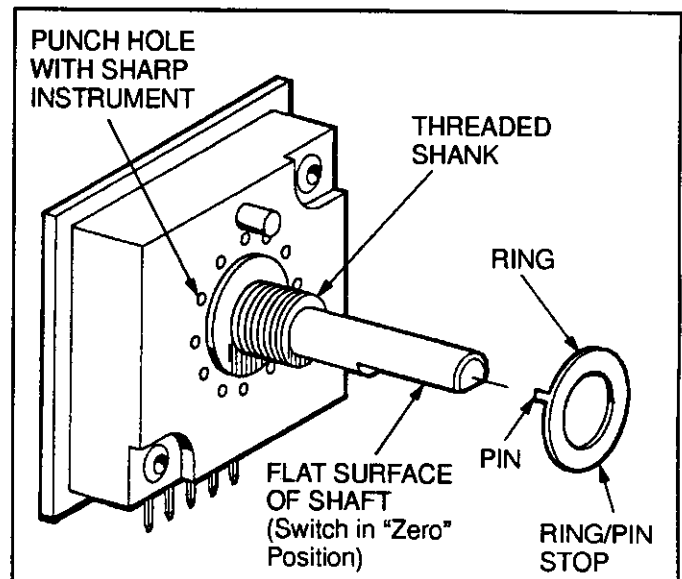

Fig. 5
2. Rotate shaft until flat is opposite anti-rotation post as shown in Figure 5. This places the switch in the "0" position in accordance with industry standards.
- a. *One Stop* - Align ring/pin stop with shaft so pin is facing switch, then slide ring over threaded shank and insert pin into stop pin hole. See Figure 5.